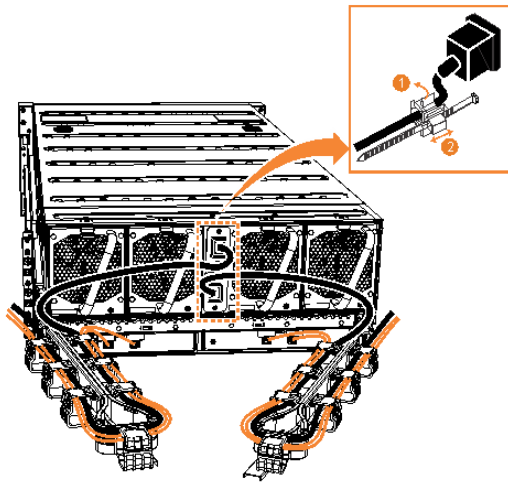

Figure 139. Secure power cables
2. Secure the power cables in the cable retainer at each power connector on the rear of the enclosure, as shown in Figure 139 on page 118. Also, ensure that each cable is installed along one of the cable management arms. The cable management arms also support the SAS cables.